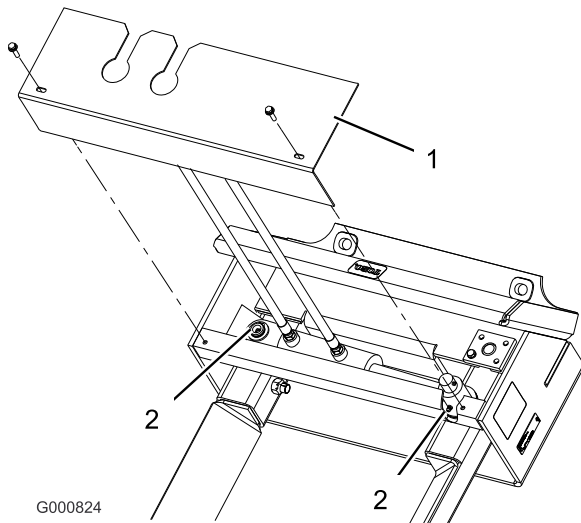
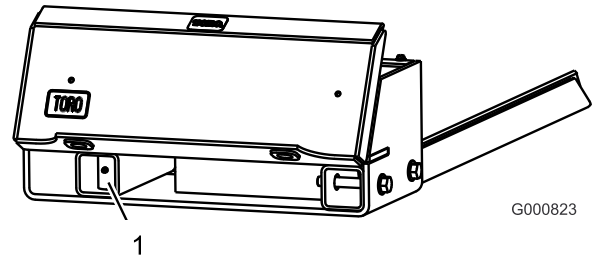

Figure 4
Figure 5
2. Remove the 2 bolts securing the cover and remove it (Figure 4).
3. Clean the grease fittings (Figure 4 and Figure 5) with a rag. Make sure that you scrape any paint off the front of the fitting(s).
4. Connect a grease gun to each fitting (Figure 4 and Figure 5).